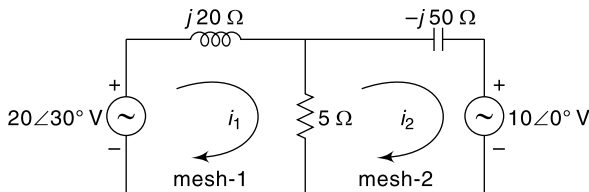

Fig. 14.80
14.90 Calculate the average power delivered to each passive element for the circuit shown in Fig. 14.80.